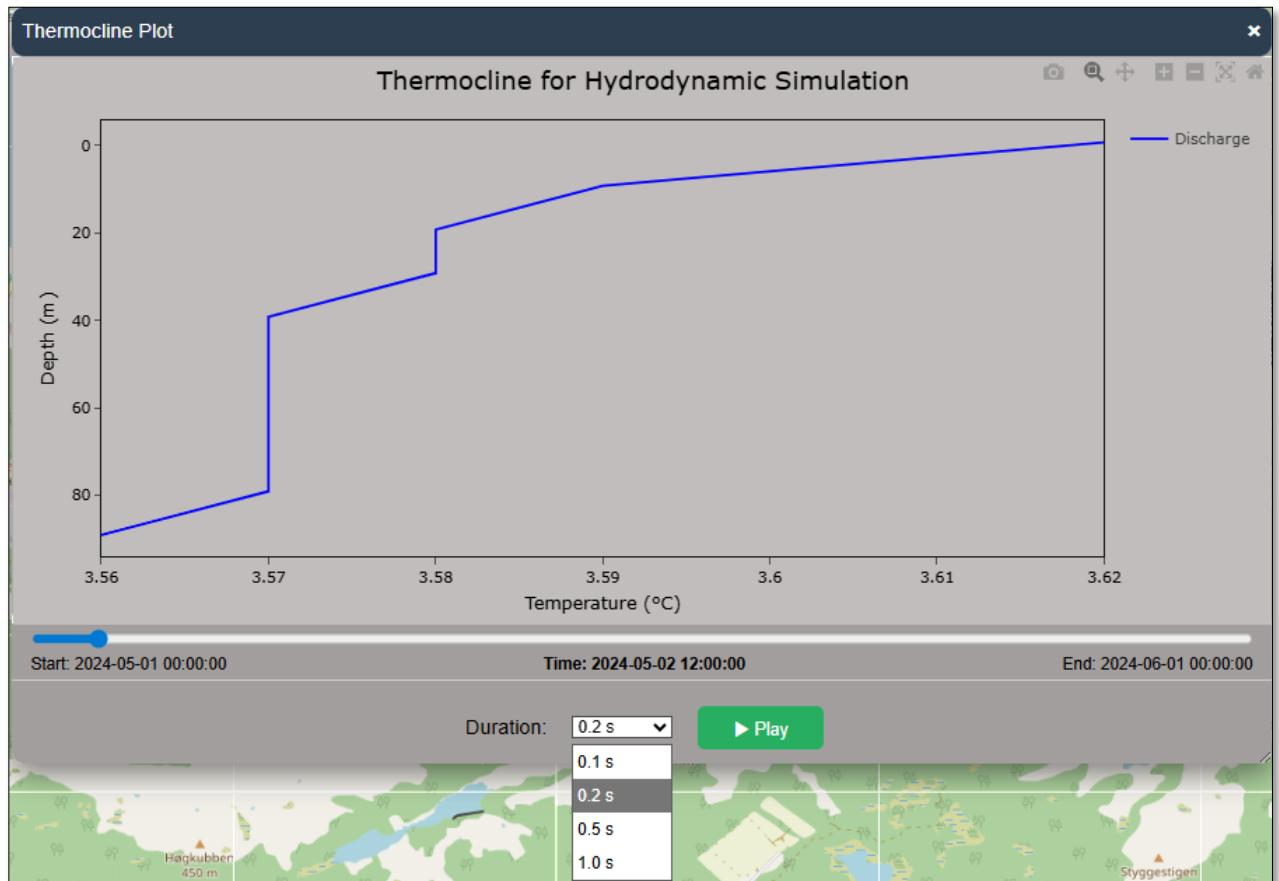
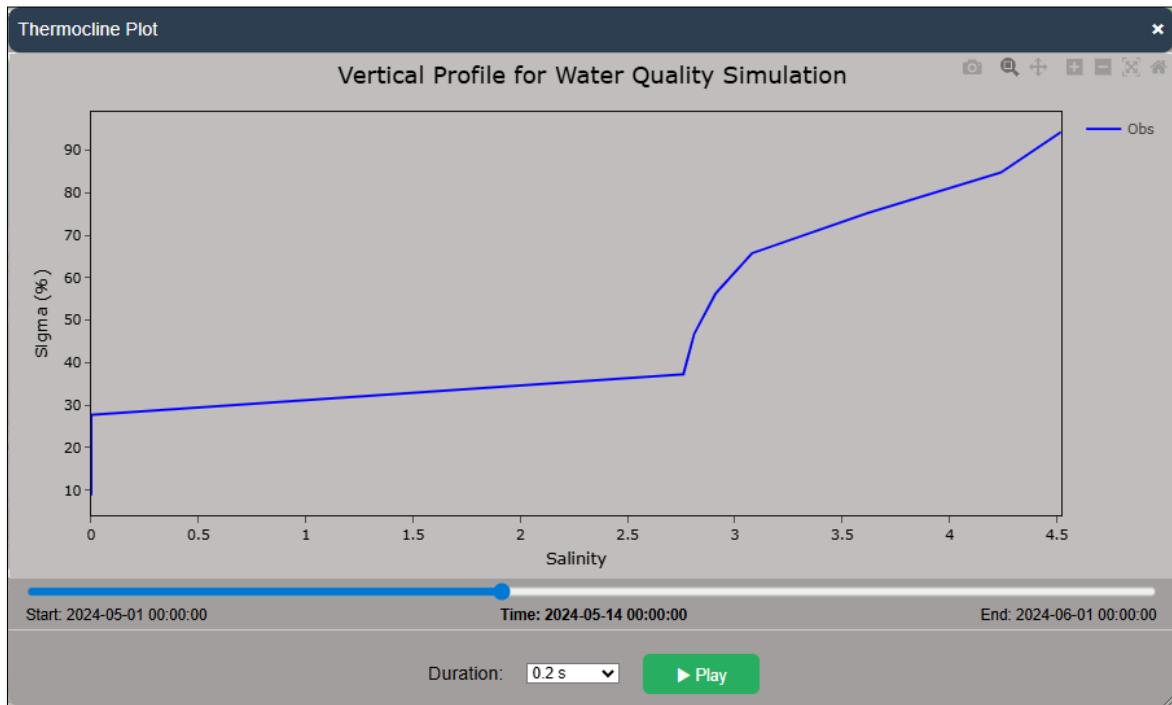

Figure 4.11. Thermocline chart for the HYD simulation
Figure 4.12. Thermocline chart for the WAQ simulation
- Step 3: A window containing a dynamic chart for HYD simulation (**Figure 4.11**) or WAQ simulation (**Figure 4.12**) appears, and the user can click the “**Play**” button to see the animation. The user can change the value in the dropdown menu in the field “Duration” to adjust the animation speed.